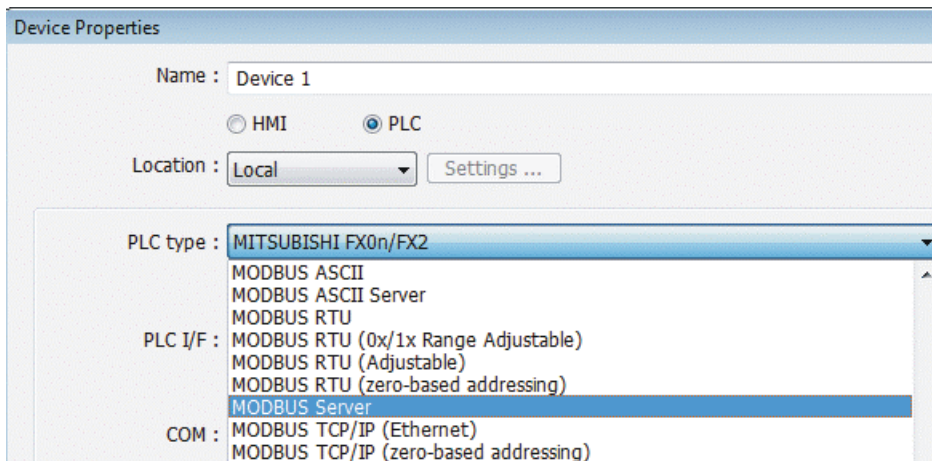

Figure 1: PLC Protocol Configuration in EB8000
2. Select “MODBUS Server” as the PLC type, which is used for Modbus RTU as a slave. Refer to Figure 1 below.